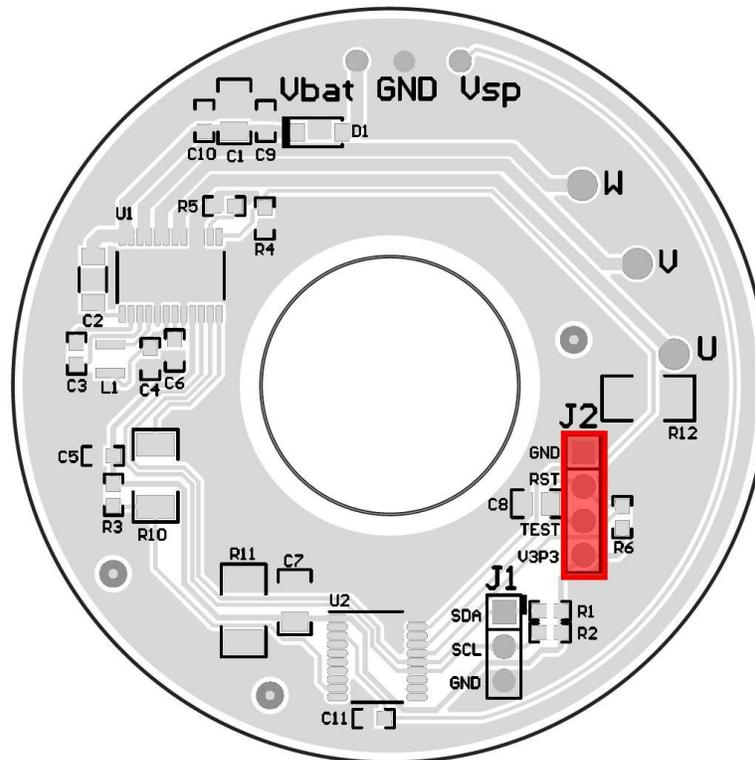

Figure 5. Hardware Setup for JTAG Interface and Communication With MSP430 MCU
It is also recommended to use a JTAG emulator like the one found through the MSP430 LaunchPad™ Value Line Development Kit \(MSP-EXP430G2\) to interact with the MSP430G2553. See Figure 5 for more information when connecting to the system using the JTAG interface. For pins 1 through 4 of J2, see the GND, RESET, TEST, and V3P3 required for the JTAG interface. For more information about I²C and the JTAG interface, see Section 3.1.2.
2. Connect the LaunchPad programmer to the TIDA-01496 board, as shown in Figure 5.